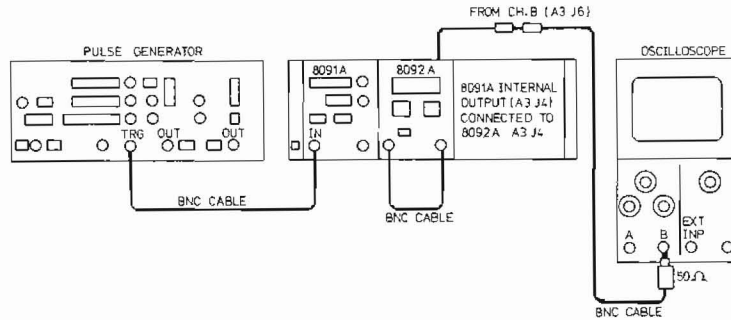

Figure 5-2. Amplifier Adjustment Setup
1. Connect the test equipment as shown in Figure 5-2.